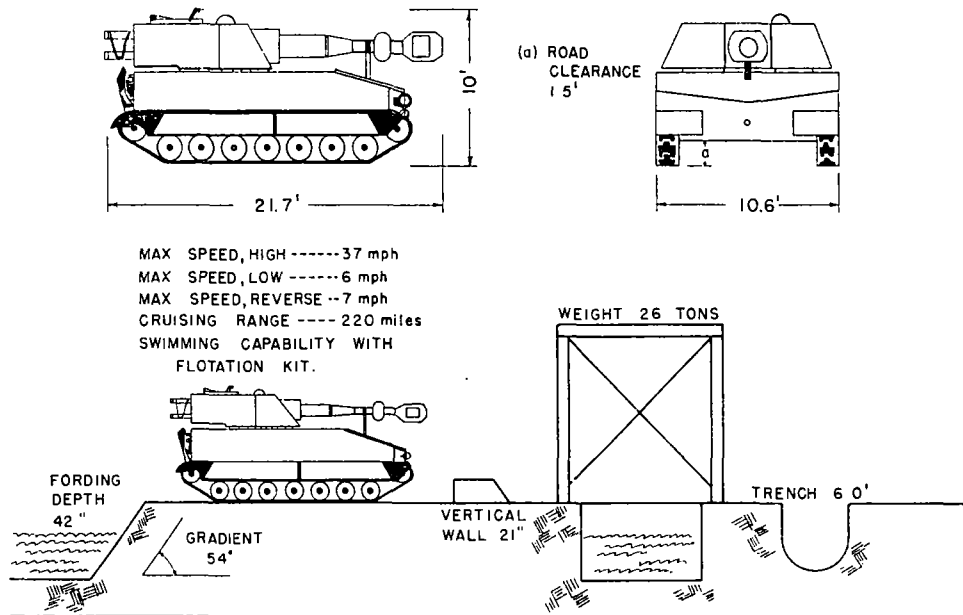

Figure 2. Performance characteristics.
- a.* Capabilities and limitations of the howitzer are shown in figure 2.